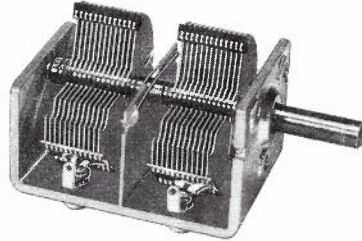

FIG. 21. GENERAL PURPOSE TWO-GANG VARIABLE CAPACITOR.
- **GENERAL PURPOSE.** Each conductive surface consists of a number of parallel metal vanes, as shown in Fig. 21. One set of vanes is rotated by a shaft, and the other is fixed. The component in Fig. 21 is a two-gang device. Components with one to five gangs are not uncommon.